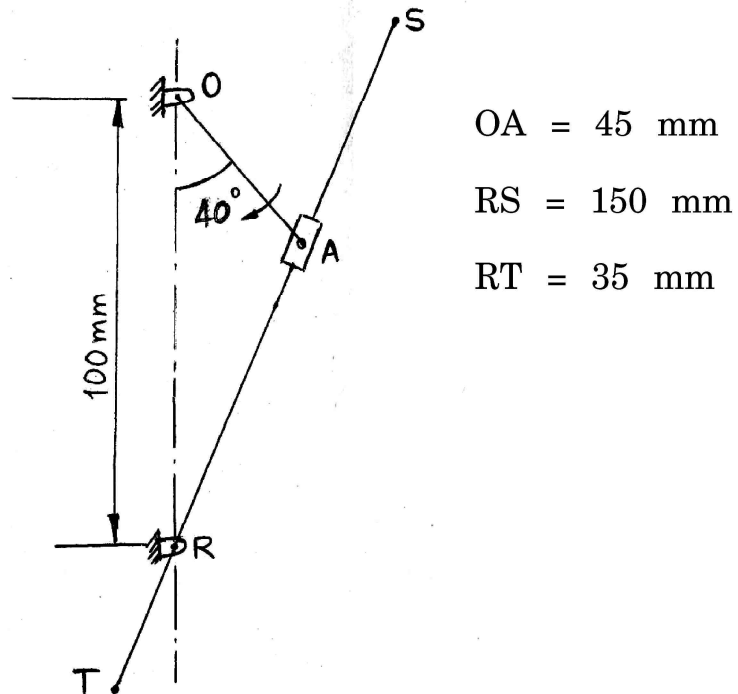

Fig. 3
- (b) In the mechanism shown in Fig. 3, the crank OA rotates at 120 rpm in clockwise direction and transmits motion to the oscillator RS, pivoted at R. If RT is backward extension of Link RS find out instantaneous acceleration of point T.[11]